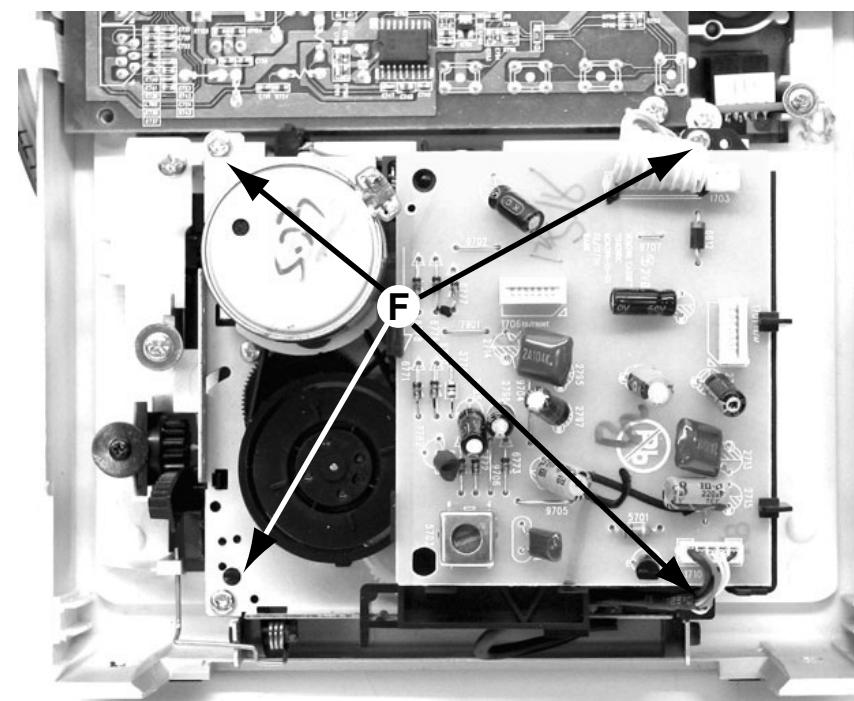

Figure 7
- 2) Release the fixation of the Combi Board (pos1102-1003) to Bracket Combi (pos 155) by releasing the 2 catches C1 (see Figure 7) and pulling the Combi Board outwards as shown in Figure 7A.
- 3) Uncatch 2 catches C2 (see Figure 7) on the left & right sides of the Cabinet Front (pos 101) and slides the Front Panel assembly out towards the front.
- 5) Loosen 4 screws F (see Figure 7) to remove the Module Tape Deck.